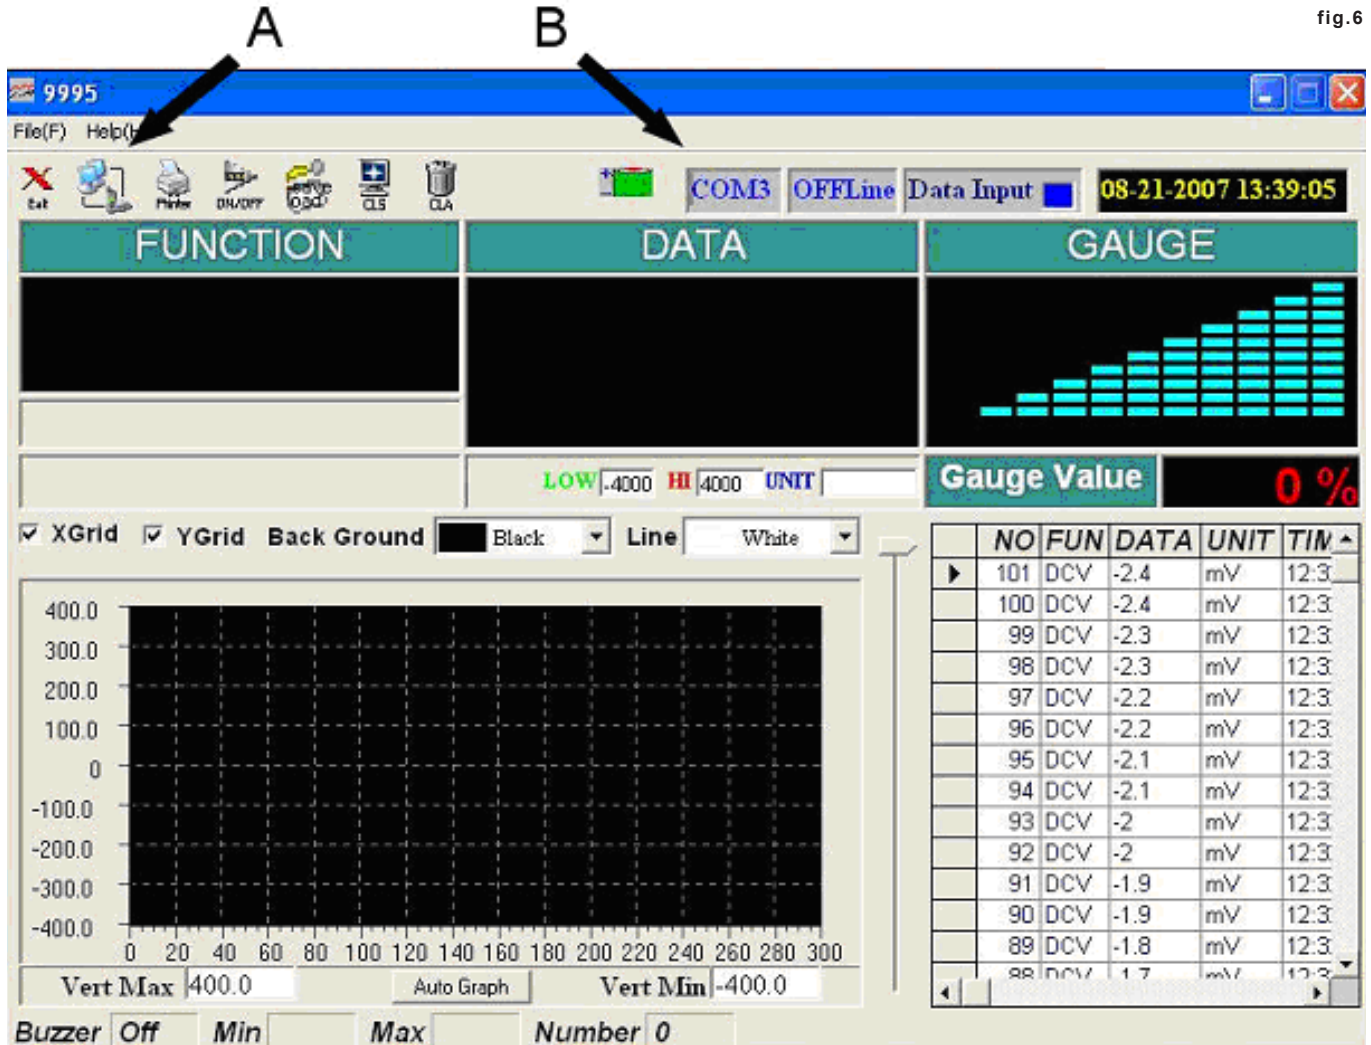

fig.6
4.18. Windows® Application Program (fig.6.)
- 4.18.8. Click button "A" (Fig.6) to toggle between available COM ports until the COM# in window "B" (Fig.6) matches the number found in the device manager in step 4.18.5.